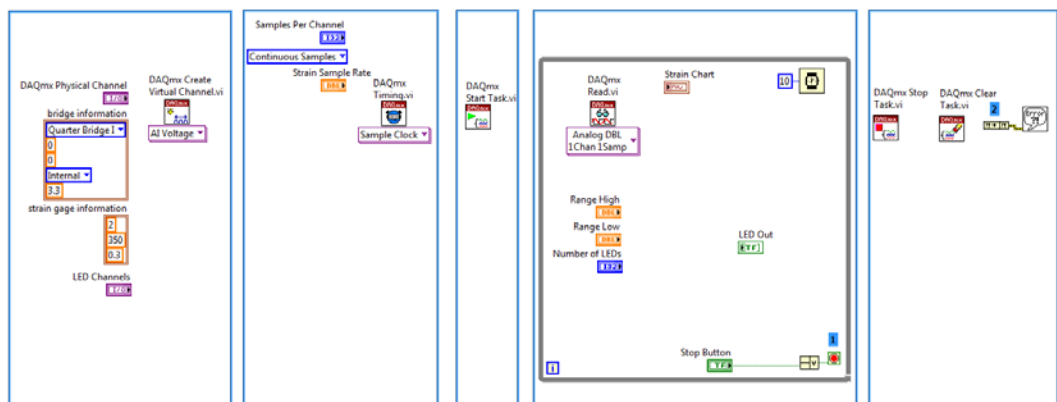

Figure 14. The flow of DAQmx code almost always follows the same pattern.
25. Drag the following VIs from the DAQmx palette and place them as shown in Figure 14.